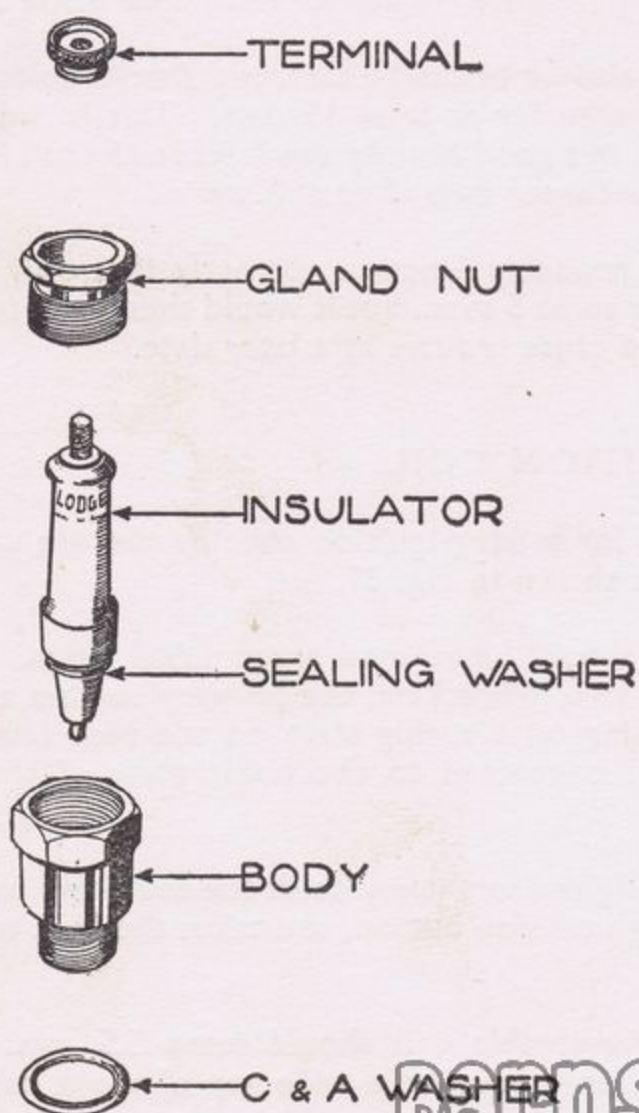

FIG. 29.
3. The plug parts can now be re-assembled as in Fig. 29, care being taken to see that the internal seating washer between the insulator and the body is correctly positioned and that **all joint faces are scrupulously clean**. The gland nut should then be lightly tightened on the insulator, the nose end of the insulator centralised within the body, and gland nut then finally tightened with normal effort, using a box spanner with no greater than 8" leverage.